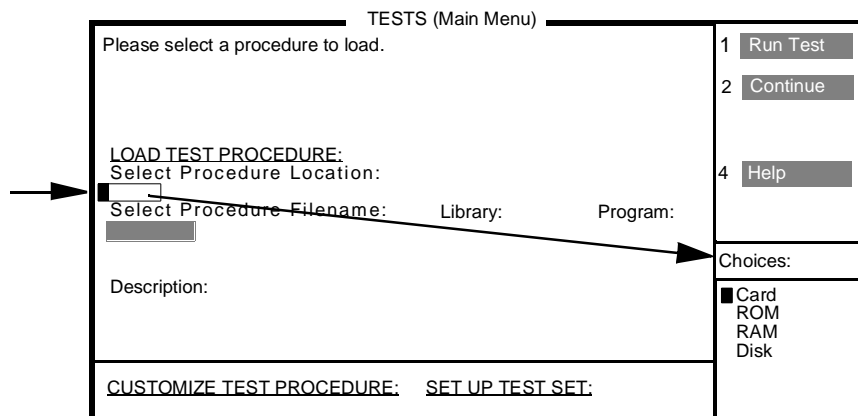

Figure 4
- 1 Position the cursor in the **Select Procedure Location** field and select it. The **Choices:** menu appears in the lower-right corner of the screen (see figure 4).